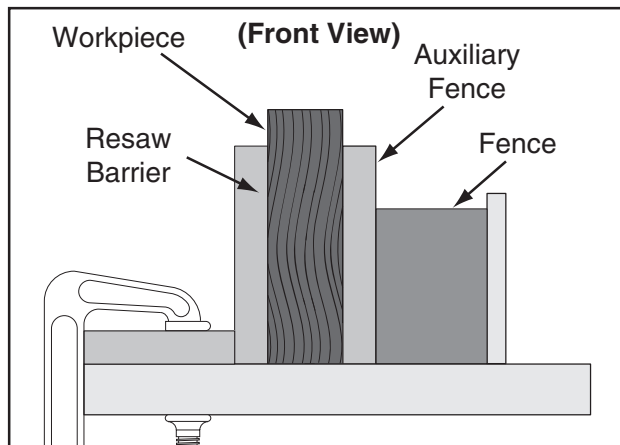

Figure 89. Ideal resaw workpiece setup.
- Place the workpiece against the auxiliary fence and slide the resaw barrier against the workpiece, as shown in **Figure 89**. Now clamp the resaw barrier to the table at both ends.